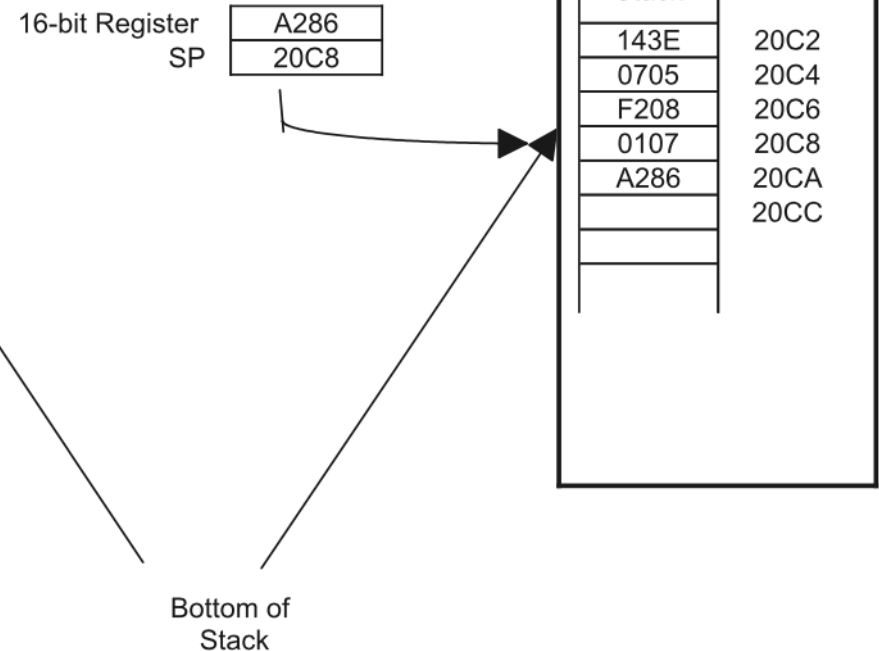

FIGURE 2.13 POP operation when accessing a stack from the bottom.
- Now, consider the POP operation of Figure 2.13. The stack pointer is decremented by 2 after the POP. The contents of address 20CA are assumed to be empty conceptually after the POP operation.